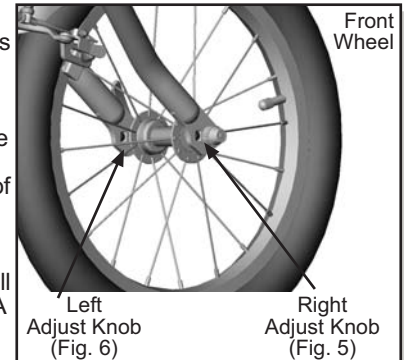

Fig. 4. Adjust Knobs
- 7) Fine tune tracking of stroller is accomplished by using the adjustment knobs shown in Fig. 4.